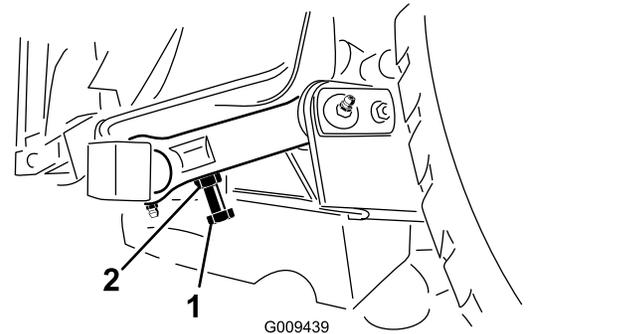

Figure 27
3. To adjust distance, locate adjuster bolt on rear pivot link of the mower deck (Figure 27).